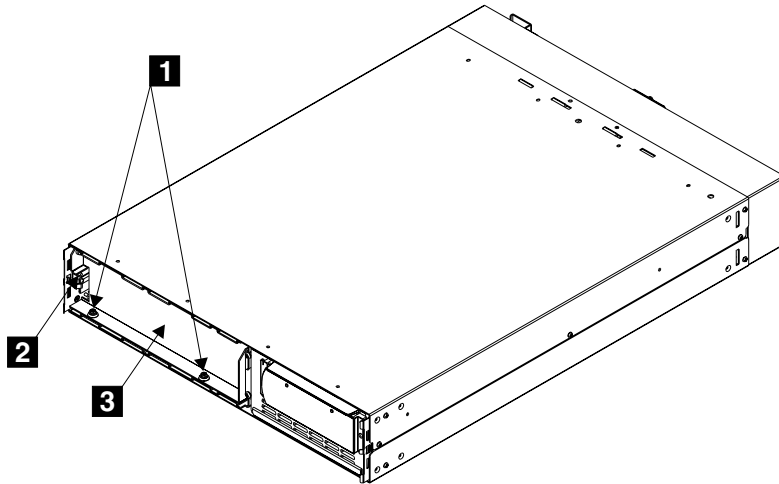

Figure 106. Removing the battery retaining bracket
5. Remove the two bolts **1** and additional nut **3** on the left side of the bracket (see Figure 106 on page 158) to remove the battery retaining bracket **2**.